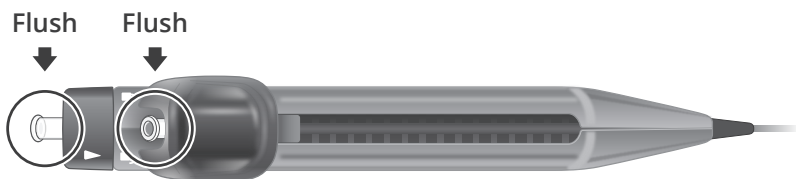

Figure 7
7. Remove the funnel catheter from the tray. Then flush both luer connectors on the funnel catheter handle (see Figure 7).